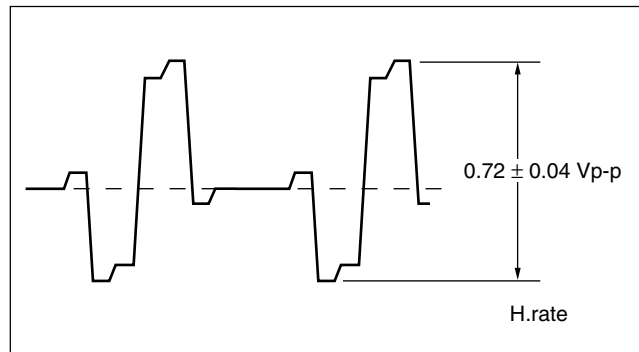

Fig. 3-5-6 R-Y level
- Adjust VR3 so that the R-Y level is  $0.72 \pm 0.04$  Vp-p as shown in Fig. 3-5-6.